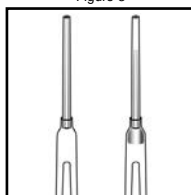

Figure 4
5. Holding the VACUette almost horizontally, touch the tip to the contents of the micro-test tube (fig. 4).
6. **Required for R-9510D only:** Pull the VACUette into a vertical position. A small portion of the collected sample should fall into the sleeve of the VACUette tip (fig. 4).